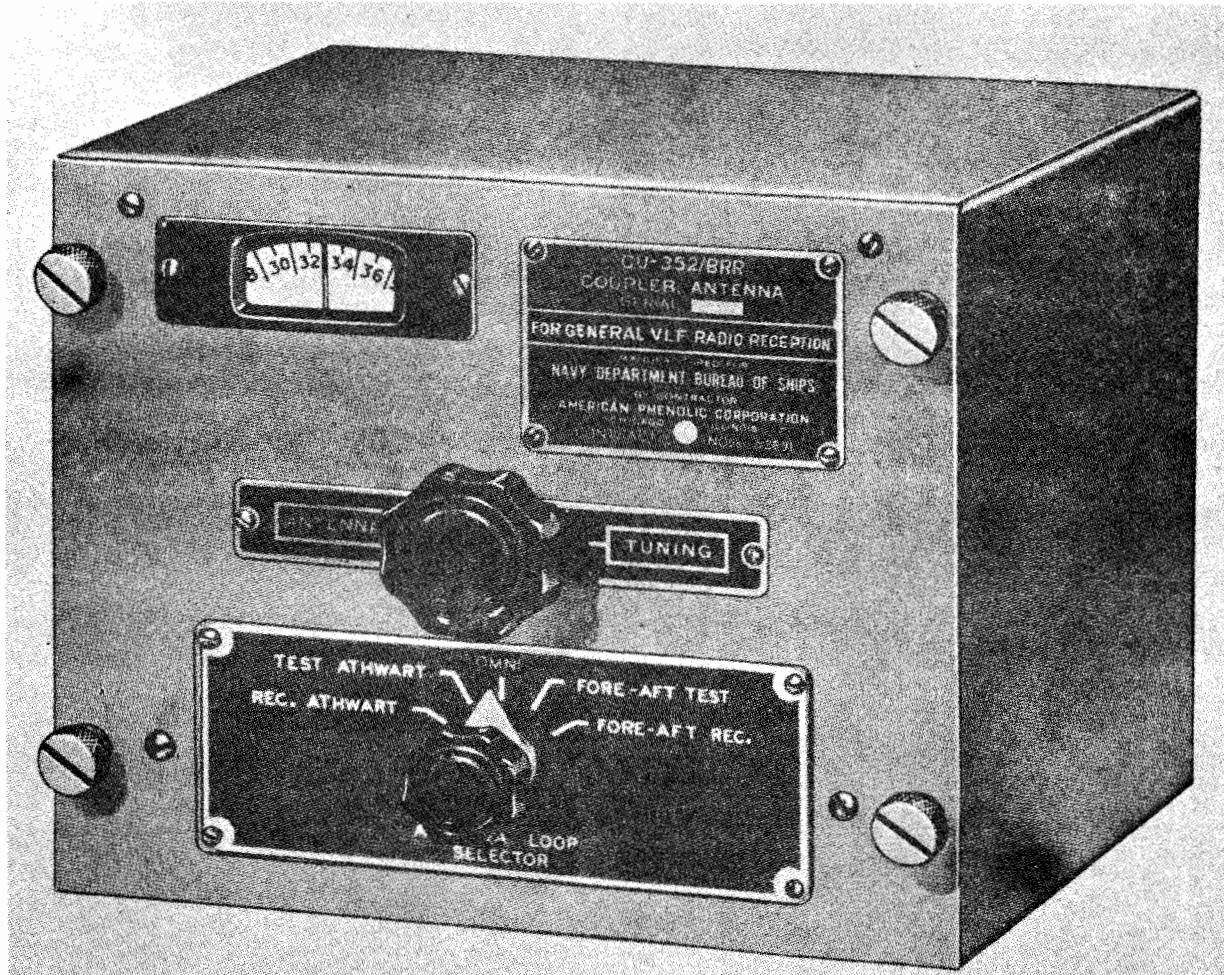
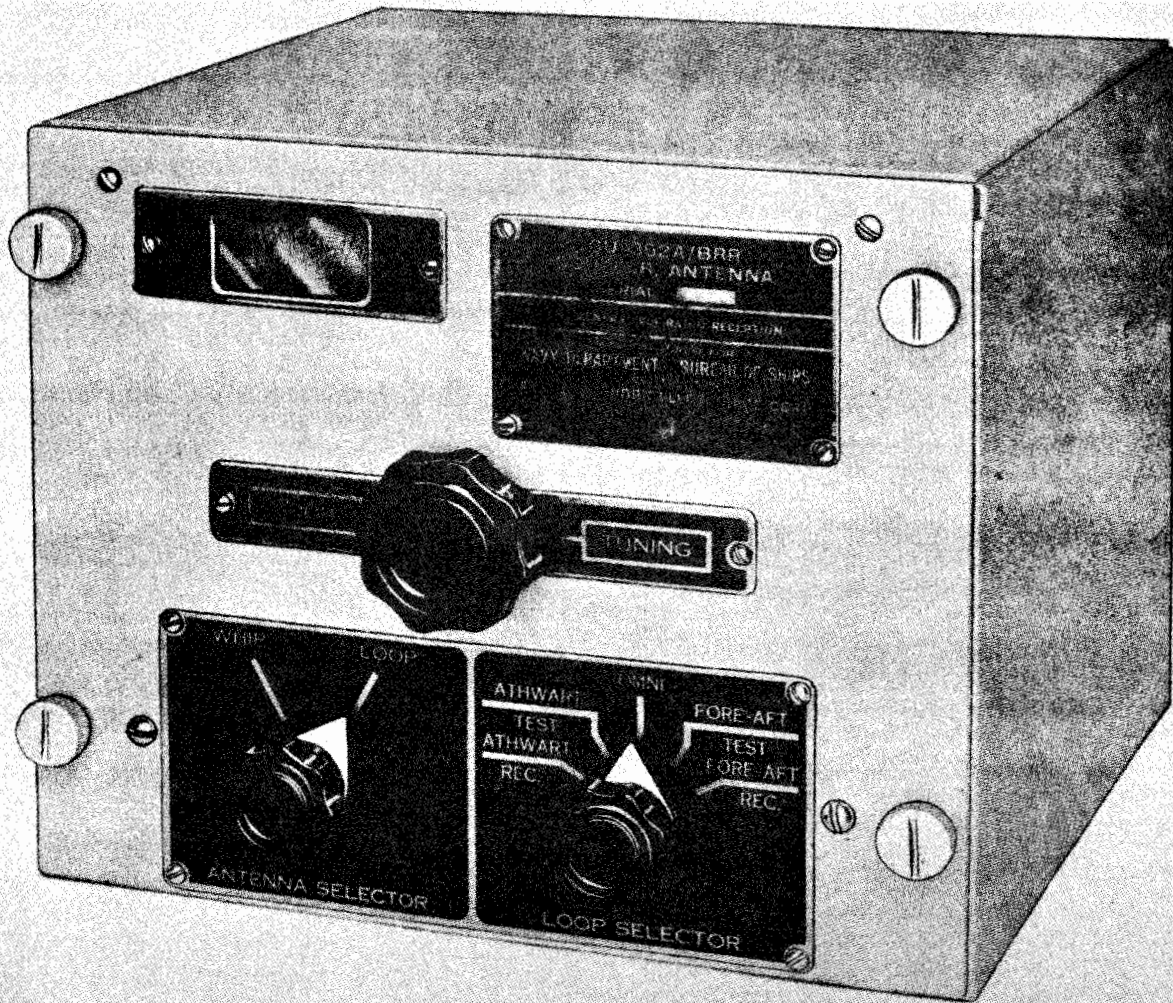

Figure 1-3. Navy Type CU-352/BRR VLF Antenna Coupler (Part of Antenna System).
Figure 1-3A. Navy Type CU-352A/BRR VLF Antenna Coupler (Part of Antenna System).
c. ANTENNA COUPLER.—Antenna Coupler CU-352/BRR (fig. 1-3) and CU-352A/BRR (fig. 1-3A), are housed in a gray metal case. CU-352/BRR has three connectors in the rear and two controls on the front panel, CU-352A/BRR has 4 con-